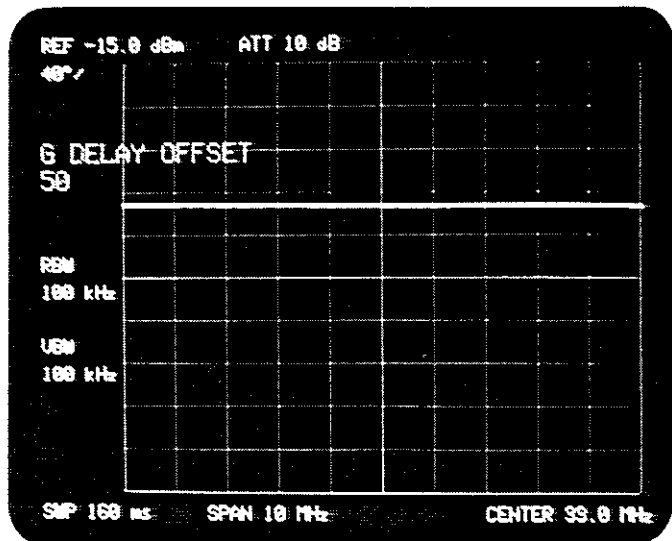

Fig. 7-4 Elimination of Phase Slope
- (6) If phase slope is observed, press the DELAY OFFSET key to enable adjustment of the electrical length. Then adjust the phase response until it is flat with the DATA knob or DATA step keys. (See Figure 7-4.)